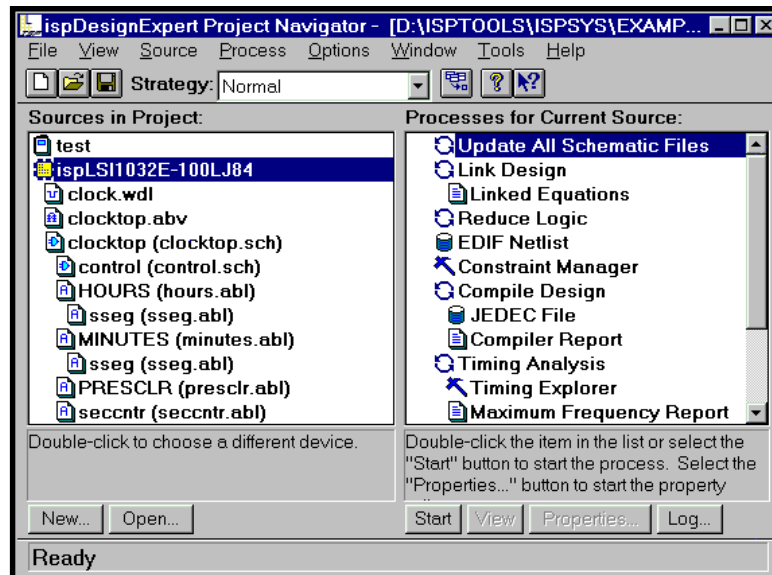

Figure 1-11. Project Navigator with Target Device Selected
- Click **Yes**. The specified target device appears in the Sources window. Also, all the processes for that device are shown in the Processes window (Figure 1-11).